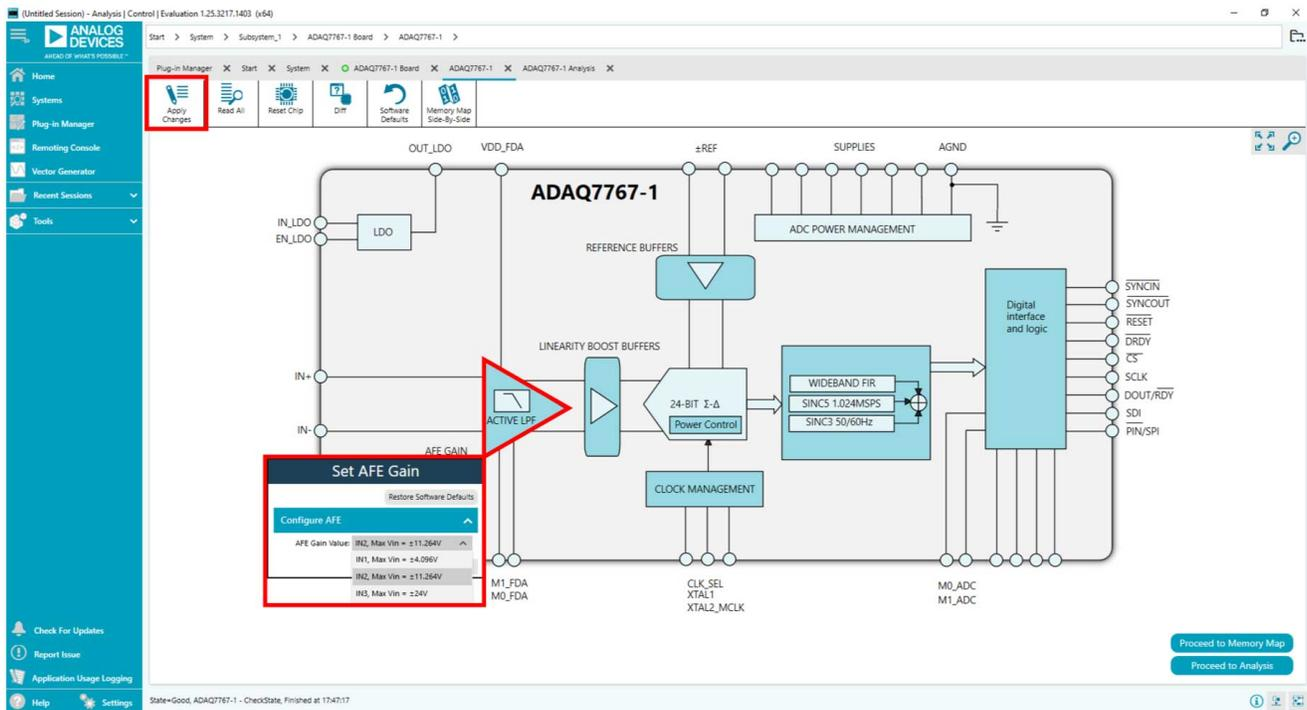

Figure 25. Input Range Selection Menu
2. To properly detect and scale the applied input voltage when displaying results in volts, in the **ADAQ7767-1 Board Chip View** of the **ACE Software**, click on the **ACTIVE LPF** and select the corresponding input range, and then click **Apply Changes** (see Figure 25).